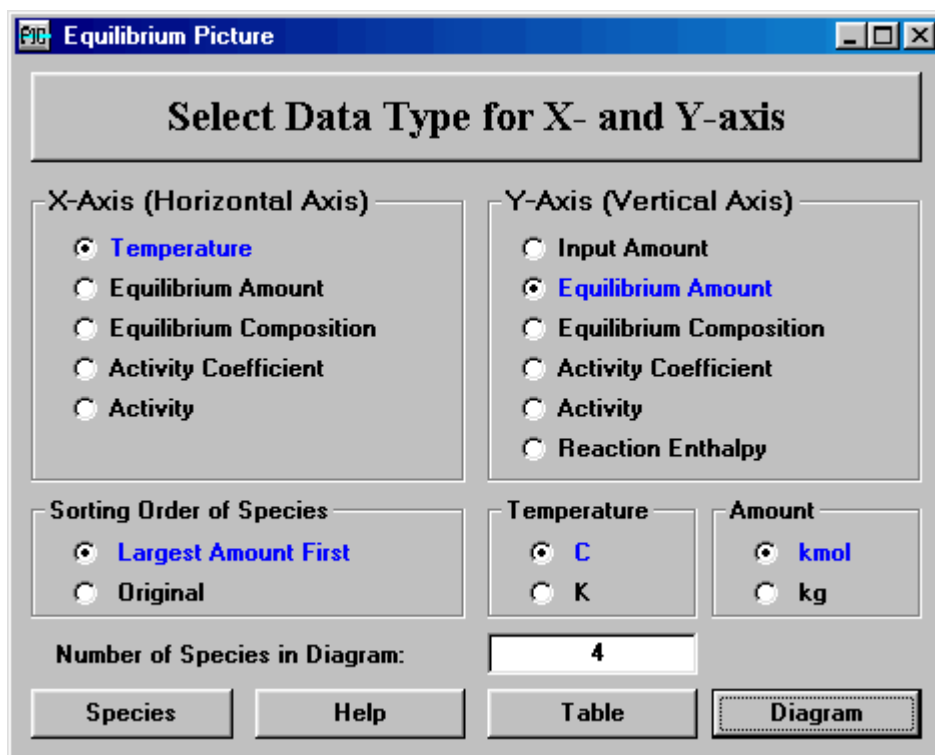
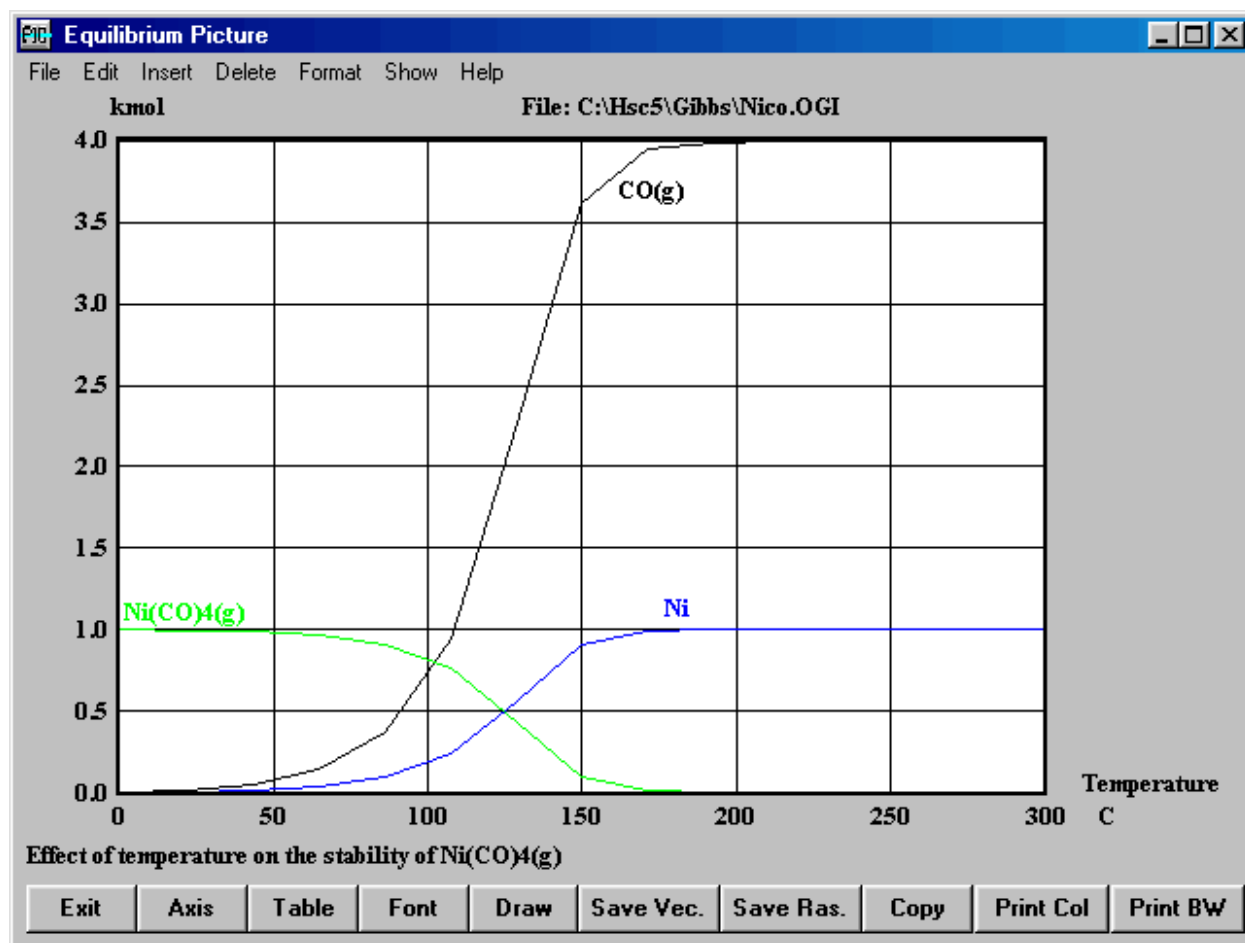

Fig. 10. Selecting data type for the x- and y-axis.
Fig. 11. Equilibrium Diagram.
When you press **Diagram** in the Axis menu, Fig. 10, then the PIC post-processor module reads the equilibrium results from the file and draws the diagram using default scale, font, line width, etc. selections, see Fig. 11. Note that the program inserts the species labels automatically above the maximum point of the curve using the same color for the curve and label. If the line is not within the selected x- and y-range or it is on the border then the program will not draw the line or the label.
You can edit the diagram, Fig. 11, by using several formatting options:
11. Press **Axis** to return to the previous Axis menu, Fig 10.
You can display the equilibrium results in a tabular format by pressing **Table** the Axis menu, Fig. 10, or in the Diagram window, Fig. 11. The Table window has several Excel type features in a similar way to the other spreadsheets in HSC. The most important features are:
The **Axis** button will open the Axis menu, Fig. 10, and **Diagram** will draw the diagram,